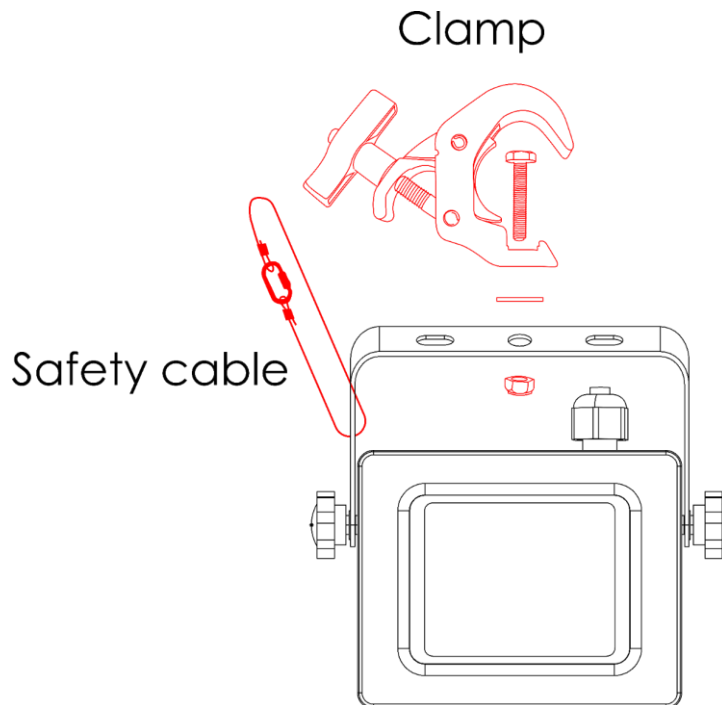

Fig. 06
- 01) Use a clamp to attach the device to the supporting structure, as shown in Fig. 06. Make sure that the device cannot move freely.
- 02) Secure the device with a secondary suspension, for example a safety cable. Make sure that the secondary suspension can hold 10 times the weight of the device. If possible, the secondary suspension should be attached to a supporting structure independent of the primary suspension. Put the safety cable through the **mounting bracket (03)**, as shown in Fig. 06.